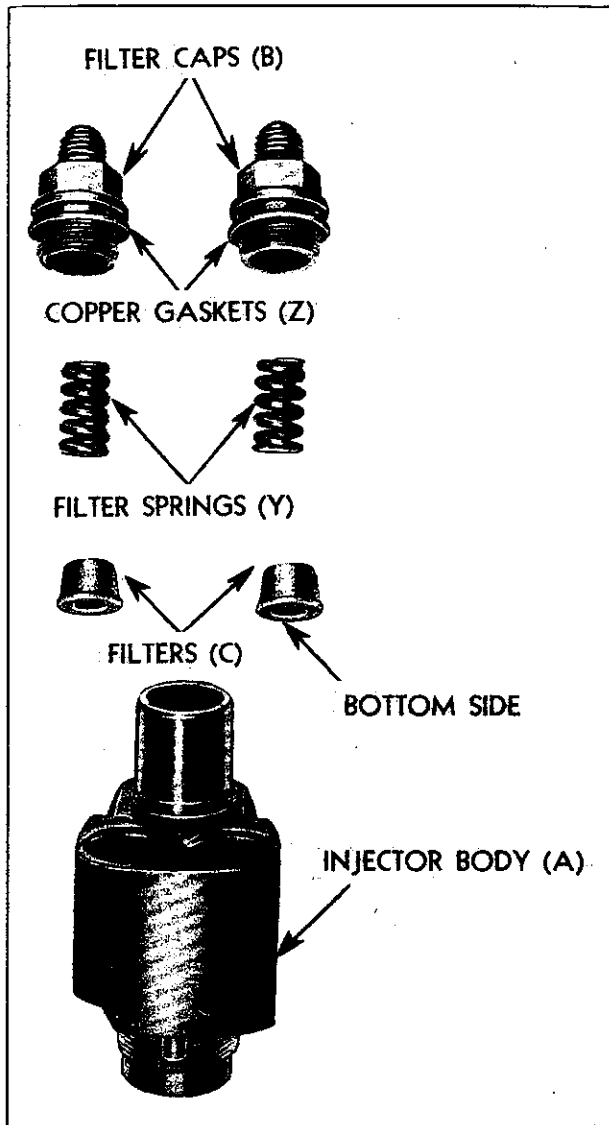

Fig. 14—Injector Filters, Springs, and Filter Caps.
- (a) Holding the injector body (A) right side up, place one of the filters (C) in each of the fuel cavities in the top of the injector body. (See Fig. 14.)